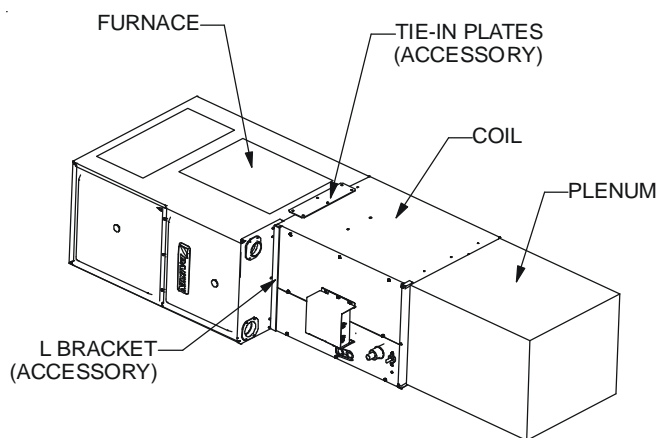

Figure 5A
4. Using the hardware and brackets provided, attach the coil to the furnace then attach the plenum to the coil (Figure 5A-5C)